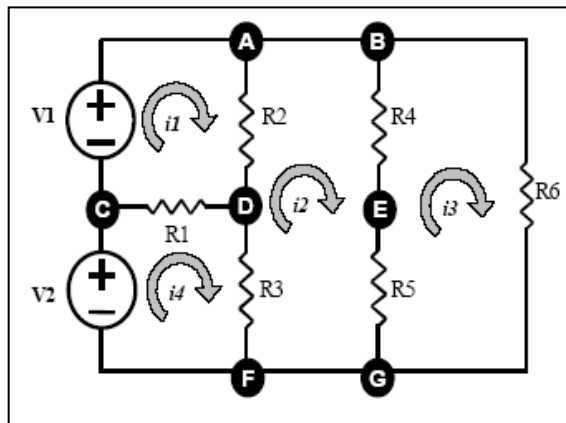

Figure 3-2: Simple Circuit to Apply Mesh and Superposition Techniques
The mesh-current method permits the description of a circuit in terms of  $b - (n_e - 1)$  equations. Figure 3-2 shows a circuit suitable for analysis with the mesh-current method. In this circuit five essential nodes ( $n_e = 5$ ) and eight essential branches ( $b_e = 8$ ) can be identified, therefore  $b - (n_e - 1)$  four mesh-current equations describe the circuit. The equations are formulated by applying KVL to each mesh, expressing the voltages across the elements on the mesh currents. Once the equation system is solved and the mesh currents are known, all the branch currents (and any other parameter of interest) can be calculated.
a. Assemble the circuit in Figure 3-2 with the component values shown in Table 3-3.
Determine the experimental values in circuit Figure 3-2 by using superposition